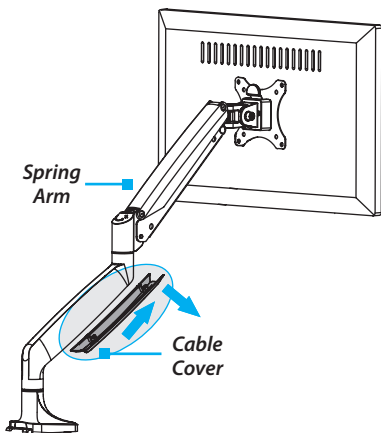

Figure 16
1. On the bottom portion of the **Spring Arm (1)**, slide the **Cable Cover** up and away from the **Spring Arm**. (Figure 16)